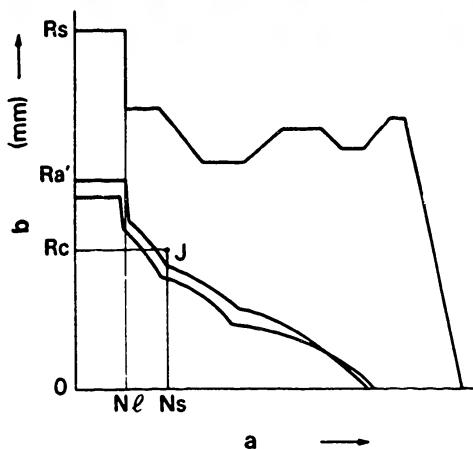

Fig. 179
1. With the pump speed maintained at N_s rpm, lock the control lever when the control rack position is R_c mm (point J in Fig. 179).